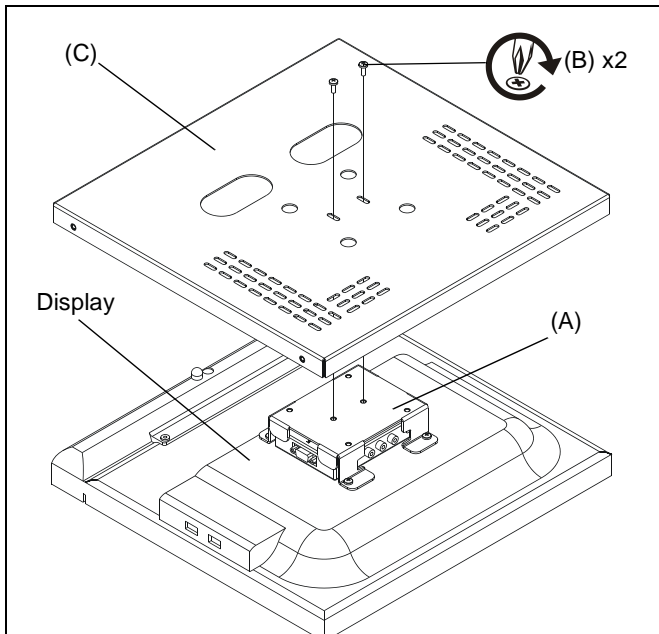

Figure 2
2. Install back cover (C) to switcher box using two M4 x 10mm Phillips pan head screws (B). (See Figure 2)